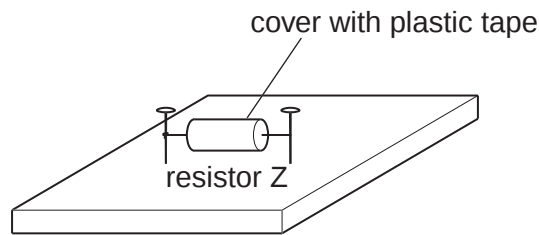

Fig. 1.2
- 2 Mount the $47\ \Omega$ resistor onto the shorter section of wood, as shown in Fig. 1.2. Cover this resistor with opaque plastic tape so that candidates cannot determine its value. Label this “resistor Z”. Terminals must be provided so that candidates can make connections to the resistor.